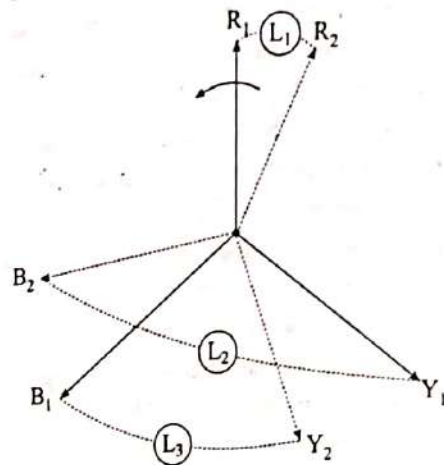

Fig. 2(c)
- If the frequency of the incoming generator G_2 is less than that of the running generator G_1 , then $R_2 - Y_2 - B_2$ vectors rotates slower than the $R_1 - Y_1 - B_1$ vectors as shear in Fig. 2(c).